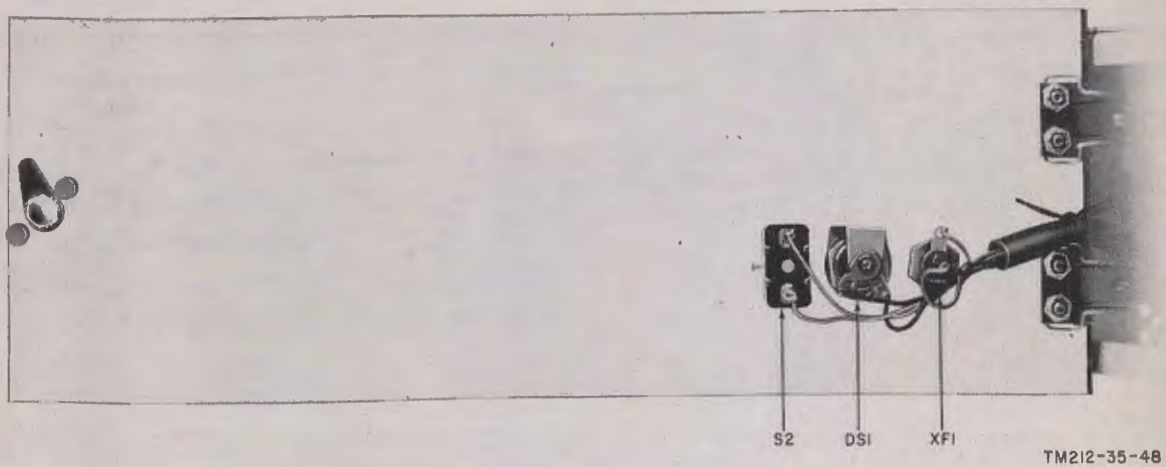

Figure 45. Telephone Signal Converter CV-542/TRC-47, panel, location of components.
a. General. Procedures are outlined in the following chart for localizing troubles to a specific section of the converter, and for localizing troubles to a stage within a section. Location of parts is found in figures 45, 46, and 47. Depending on the nature of the operational symptoms, one or more of the localizing procedures will be necessary. When use of the procedures results in localization of trouble to a particular stage, use the techniques outlined in paragraph 60 to isolate the trouble to a particular part.
b. Use of Chart. The troubleshooting chart is designed to supplement the operational checks detailed in the equipment performance checklist (TM 11-212-20) and the interunit sectionalization checks described in paragraph 46. If no operational symptoms are known, begin with item 1 of the equipment performance checklist (TM 11-212-20) and proceed until trouble is located.